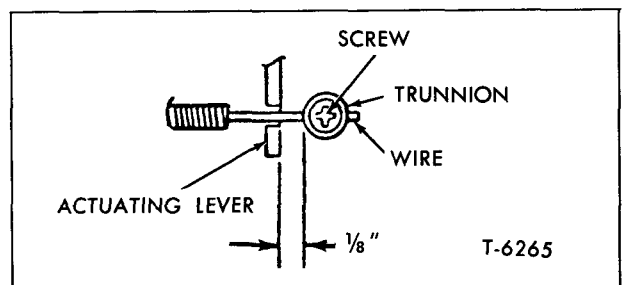

Figure 3—Control Cable Trunnion Installation (Typical)
5. Position the trunnion on the wire with 1/8-inch clearance between the trunnion and actuating lever (see fig. 3). Tighten the trunnion screw.